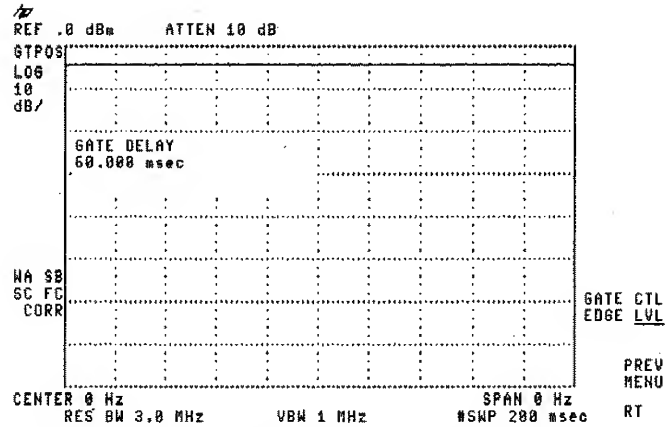

Figure 4-33. Using the Level Gate Control
4. To check the gate control function, press **SWEEP**, **Gate Control**, **GATE CTL EDGE LVL** so that LVL (level) is underlined. (See Figure 4-33.)